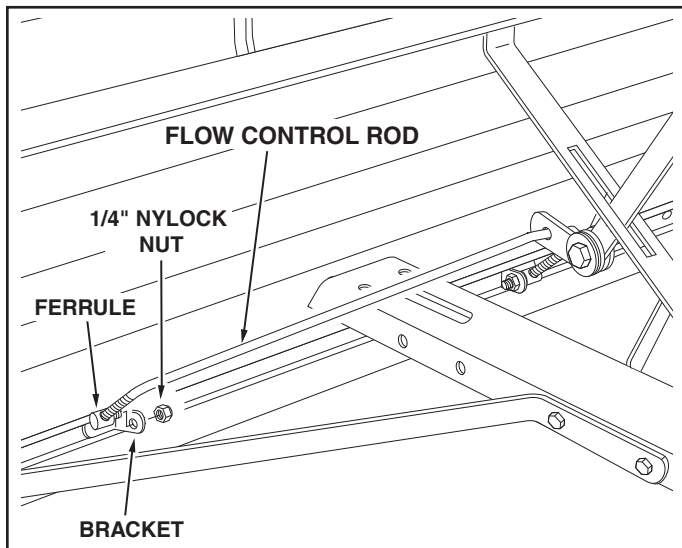

FIGURE 5
11. With 1/2" of the control rod extending through both ferrules, insert them into the brackets that are riveted to the flow plates. Assemble 1/4" nylock nuts onto the ferrules, making them only **finger tight** at this time. See figure 5.